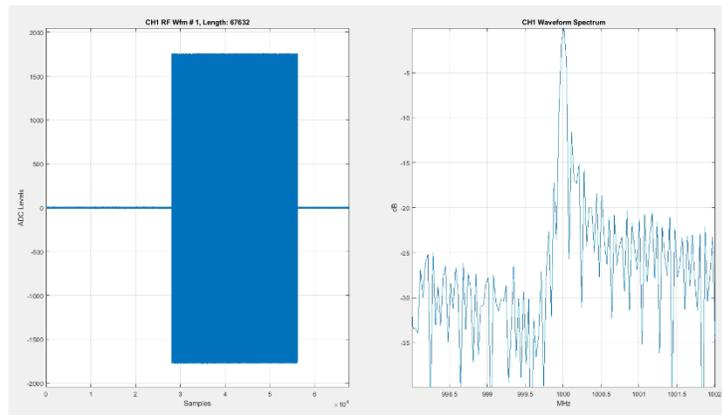

Figure 10.5 Dual Mode (Two Channels, Half Sample Rate, Top) vs. Single Mode (One Channel, Bottom) Acquisitions
- Pre-trigger: This is the number of samples acquired before the trigger takes place. As acquisitions are made using a FIFO architecture, it is possible to capture sections of the signal previous to the trigger event. However, the maximum time before the trigger is limited by the size of the frame itself (Figure 10.5 a). Pre-trigger can be set in such a way that the position of the trigger is located anywhere within the acquisition (Figure 10.5 b).
- **Trigger Delay:** Sometimes, the target time window can be located away from the trigger event. One possible solution is setting pre-trigger to zero (0) and then setting the frame length to make sure the interesting time-window is acquired (Figure 10.5 c). However, this strategy can result in using the waveform memory inefficiently, limiting the maximum number of frames that can be captured, and an increase in the waveform transfer time. In order to avoid these limitations, it is possible to set a trigger delay, so the effect of the trigger event is shifted by a fixed amount of time (Figure 10.5 d). This trigger delay functionality is available for some of the trigger sources such as the external trigger or the task trigger.